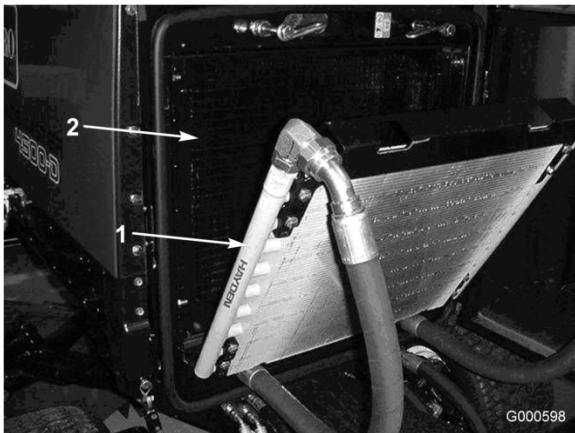

Figure 51
3. Pivot the oil cooler rearward. Clean both sides of the oil cooler and radiator area (Figure 51) thoroughly with compressed air.